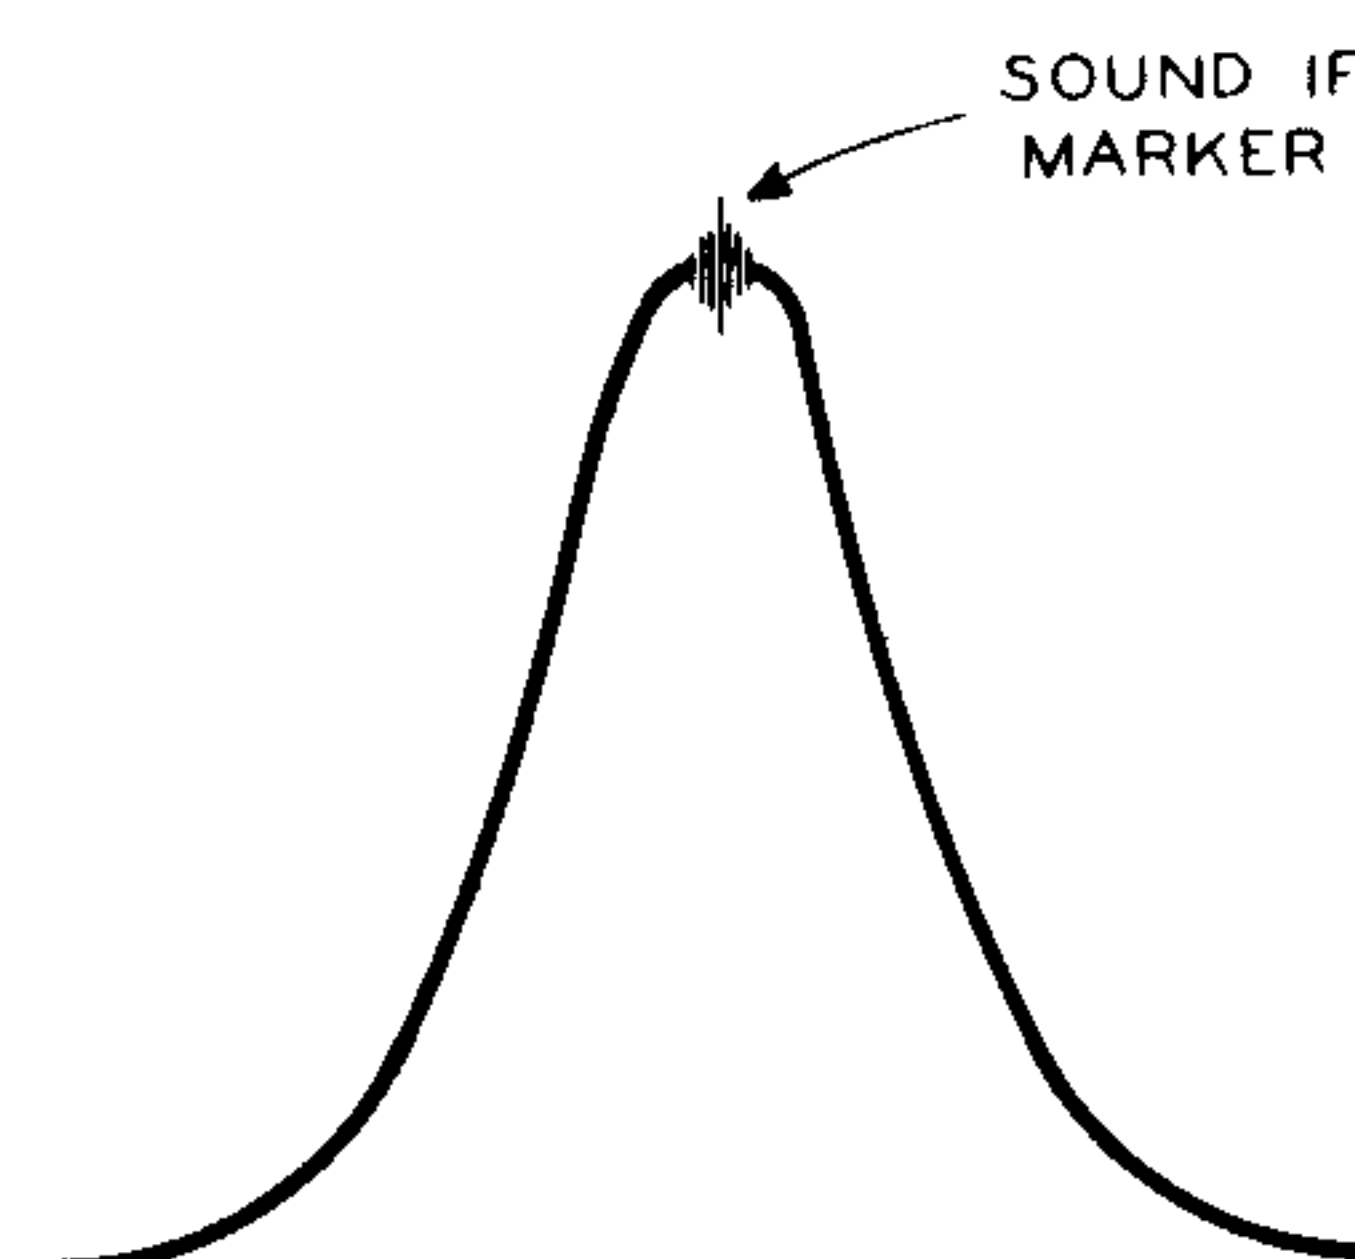

Figure 9. Sound-IF Response
7. With BLANKING set to "OFF", adjust the PHASE control to obtain a single pattern as illustrated in Figure 9.